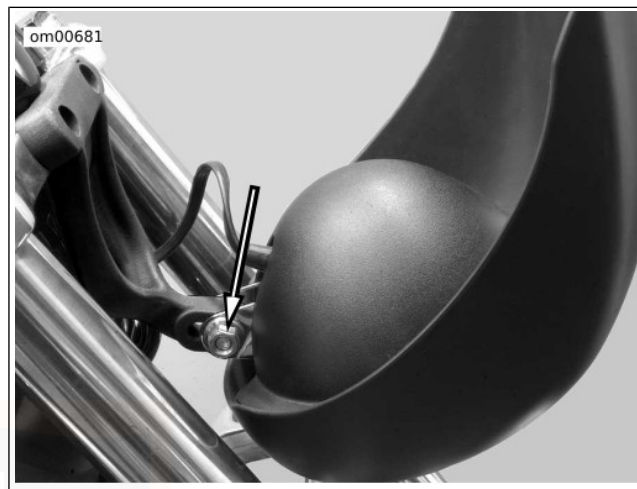

Figure 50. Headlamp Alignment Fastener: VRSCDX Models
1. See Figure 49 (VRSCAW/VRSCF) or Figure 50 (VRSCDX). Loosen fasteners slightly so headlamp is still snug.